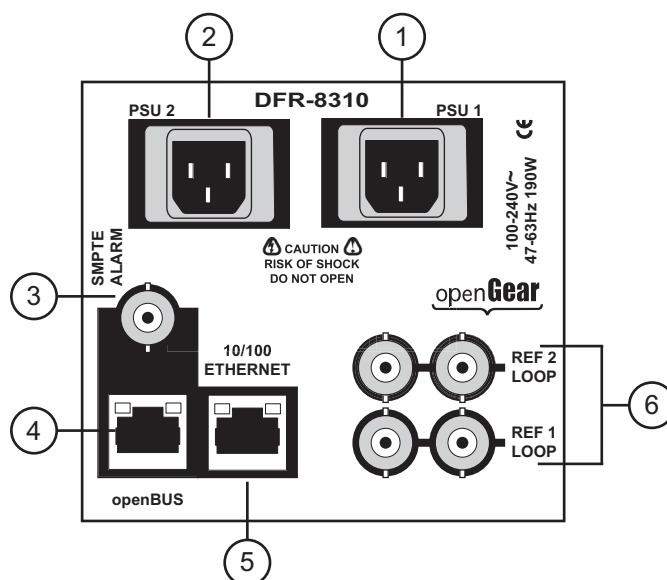
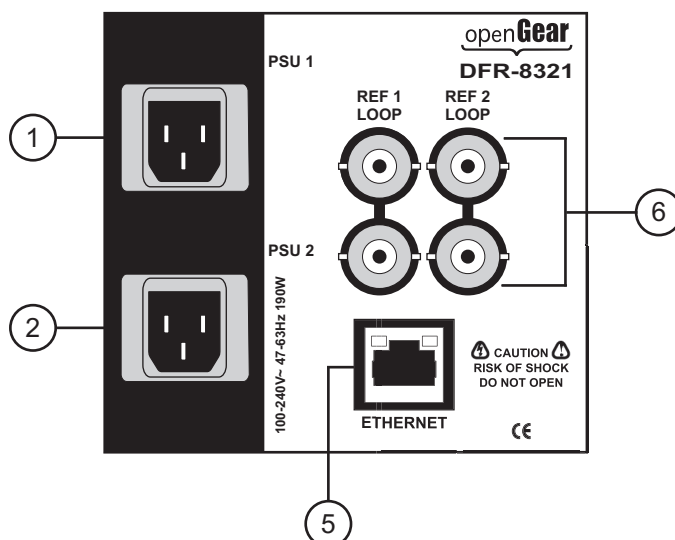

Figure 2.2 DFR-8310 Series Frames — COMM I/O
Figure 2.3 DFR-8321 Series Frames — COMM I/O
1. Connect the cable's female IEC connector to the frame socket marked **PSU 1** (**Figure 2.2** and **Figure 2.3**).
2. If the **Redundant Power Supply** option is installed, plug the second IEC connector into **PSU 2** (**Figure 2.2** and **Figure 2.3**).